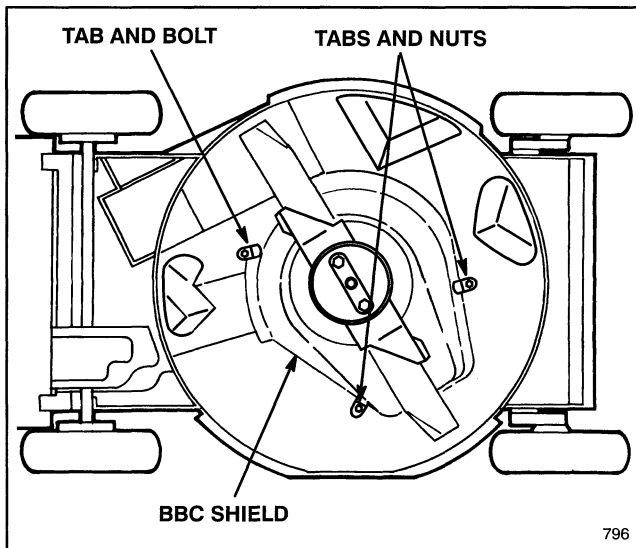

Figure 34
- Loosen tabs securing BBC shield to deck by loosening nuts or bolts on tabs (Fig. 34). Rotate tabs 180° to move them out of the way.